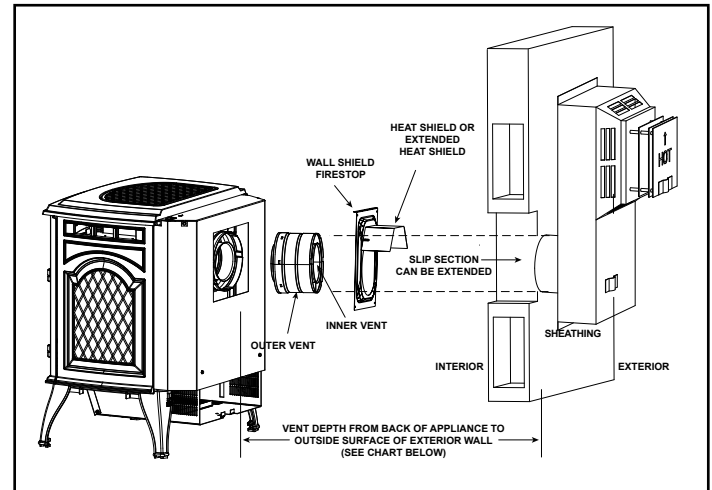

Figure 7.18 Venting through the wall
- **DO NOT** remove the heat shields attached to the wall shield firestop and the horizontal termination cap (shown in Figure 7.18).
There are two sections of the heat shield. One section is factory-attached to the wall shield firestop. The other section is factory-attached to the cap. See Figure 7.18.